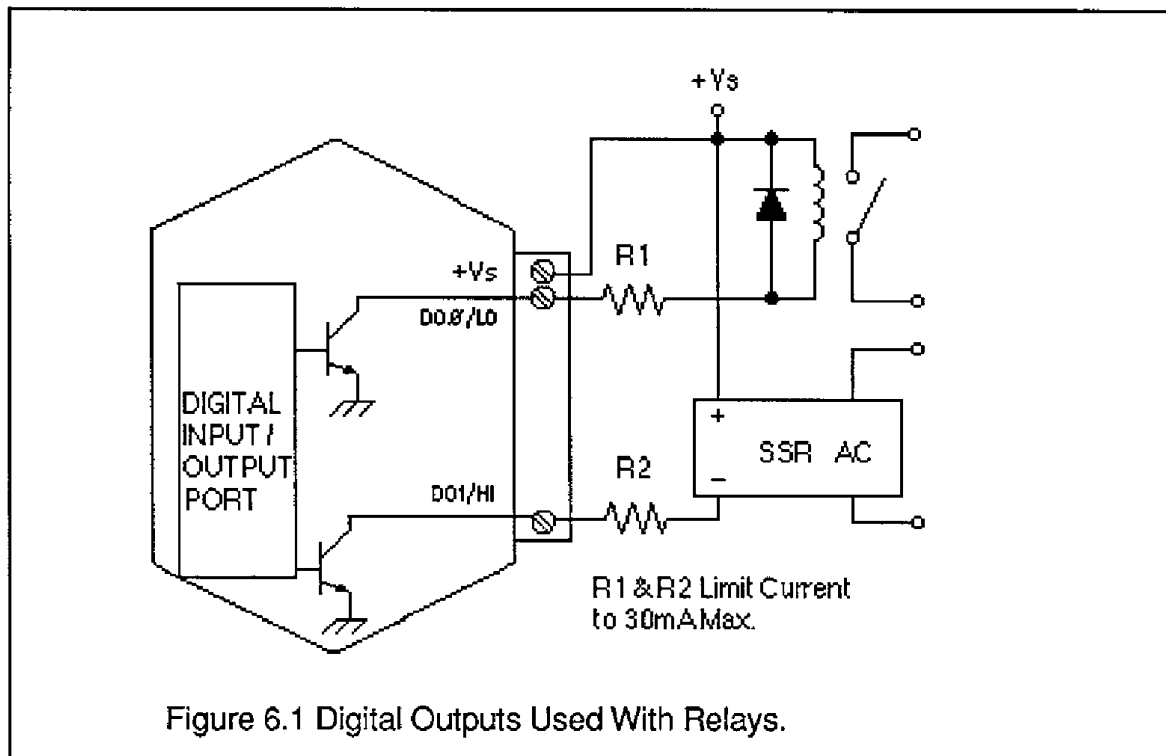
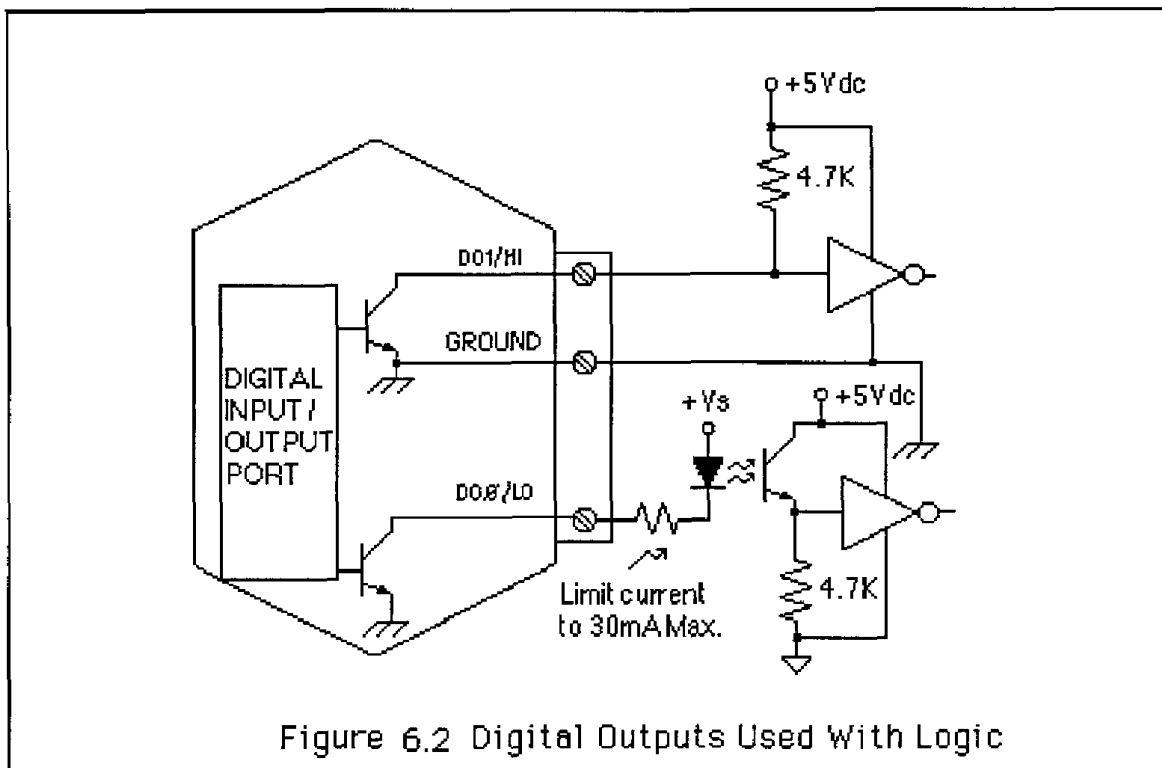

Figure 6.1 Digital Outputs Used With Relays.
Figure 6.2 Digital Outputs Used With Logic
A digital output consists of an open-collector transistor controlled by the host, using the Digital Output (DO) command (See Figure 6.1). The number of digital outputs implemented depends on the specific M1000 model number. Most sensor modules contain two digital outputs and the M1701/2 has eight digital outputs. The open-collector configuration is used to provide maximum versatility in interfacing to solid state relays (SSR's) or to standard logic levels such as TTL or CMOS. Each digital output can sink up to 30mA and can withstand up to 30V. Power in the transistor must be limited to 300 mW. The emitter of each transistor is tied to the GND terminal on the input connector.
A typical connection of a digital I/O output is shown in Figure 6.1. In this case, a solid state relay is controlled by the M1000 module. The SSR can then be used to control AC power to alarms, heaters, pumps, etc. A typical connection to a logic input is shown in Figure 6.2. In some cases, the common-mode voltage of the GND terminal may be significantly different from the ground potential of the logic input to be interfaced. This may occur when the module is powered remotely. In this case, an opto-isolator may be used to eliminate the common-mode voltage. See Figure 6.2. In all cases, the current switched by the transistor may not be more than 30 mA.
Connection to logic outputs is shown in Figure 6.2. Opto-isolation is used for isolation and where common-mode exists between the M1000 module and the signal being sensed.